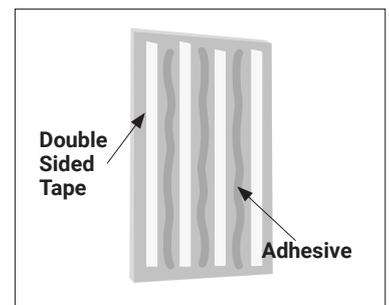

Fig 1
- Apply adhesive beads vertically on the back of each panel. Beads should be about 10mm wide and spaced 100mm apart. (See Fig 1)
- Use double-sided tape alongside the adhesive to hold panels temporarily in place while the adhesive cures. (See Fig 1)